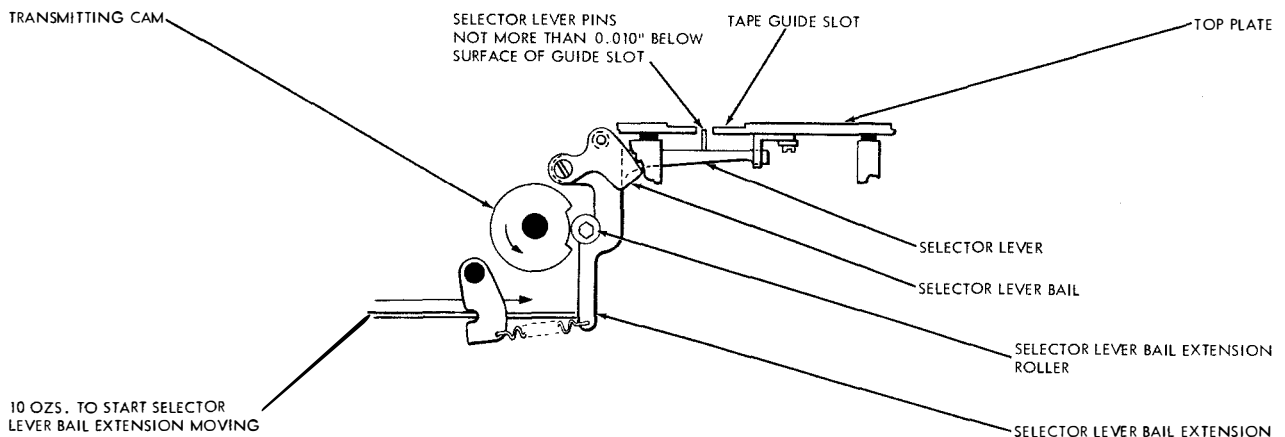

Figure 7-96. Selector Lever Bail and Bail Spring Tension
(27) SELECTOR LEVER BAIL. (See figure 7-96.)
(28) SELECTOR LEVER BAIL SPRING TENSION. (See figure 7-96.)—When the transmitting cam sleeve is in its stop position (clutch disengaged) and the selector lever bail extension roller is on the low part of its cam, it should require at least 10 ounces to start the bail extension moving. To check, place the push end of a 32-ounce scale against the selector lever bail extension directly above the spring. Push on the scale